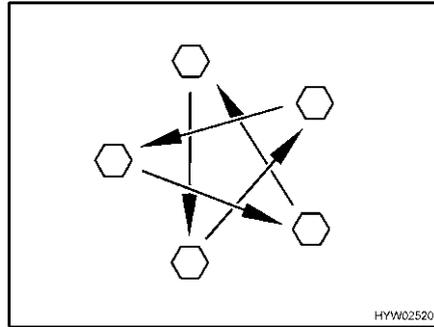

Fig. 209 Tighten the wheel nuts or wheel bolts cross-wise
- Check regularly that the wheel nuts or wheel bolts are firmly seated. Retighten the wheel nuts or wheel bolts of a changed wheel cross-wise (Fig. 209) after 50 km (30 miles). See section 13.5.2 for tightening torque.
- ▷ Tighten the wheel nuts or wheel bolts cross-wise (Fig. 209).